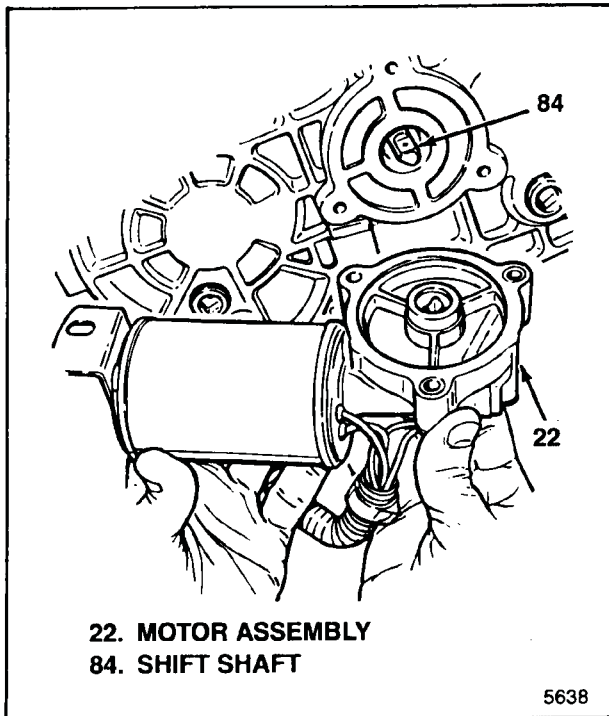
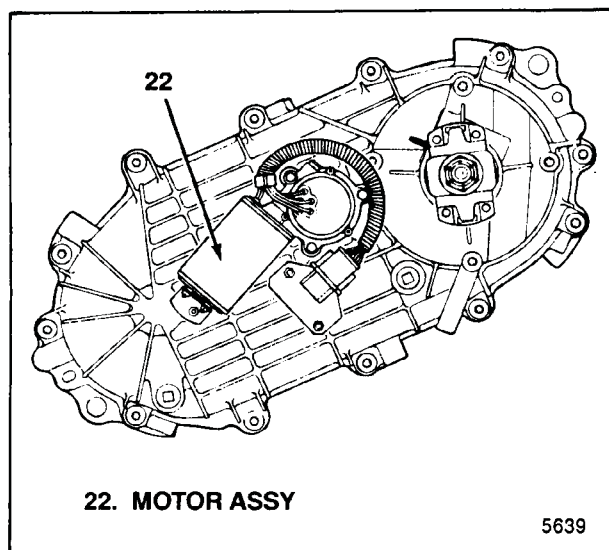

Figure 5-24. Motor Assembly Alignment
Figure 5-25. Motor Location
- b. Position motor assembly (22) so that triangular slot in motor will align with shift shaft (84) (see figure 5-24). Move motor in to engage shift shaft and contact cover (35). Then rotate motor in clockwise direction until motor is in correct position (see figure 5-25) and mounting holes are aligned. Install bolts (16) and torque to 6-8 lb-ft (8-11 Nm).
- c. Install bolt (15) at bracket end of motor assembly (22) and torque to 6-8 lb-ft (8-11 Nm).
- d. Fit o-ring (21) on speed sensor (20) and install in cover.
- e. Attach bracket (18) with bolts (17) and torque to 6-8 lb-ft (8-11 Nm).